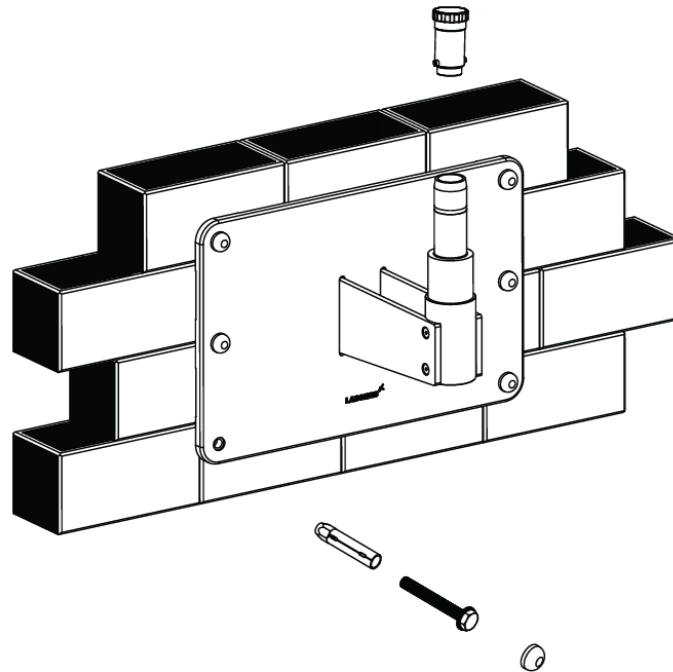

Fig. 23
- 3. Assemble the Arm on wall mount shaft referring fig.23 and reinstall the threaded plug into place.**